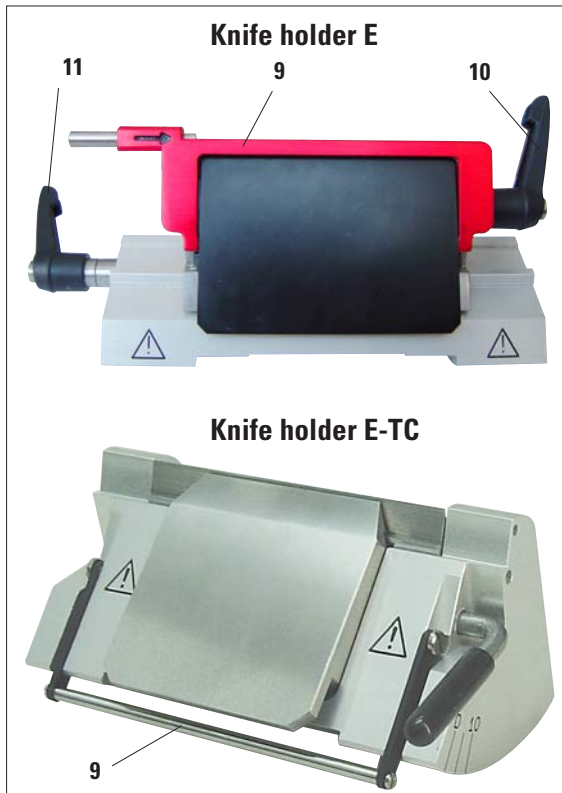

Fig. 4
The knife guard on knife holder E/E-TC consists of a red foldaway handle (9). To cover the cutting edge, fold the knife guard handle (9) upwards as illustrated in Fig. 4.
**The clamping levers on the knife holder E are not interchangeable. The two clamping levers (10, 11) must remain in the position shown at all times, as otherwise isolated malfunctions of the knife holder can occur. Clamping lever for the blade (10) at the right, clamping lever for the lateral displacement (11) at the left.**